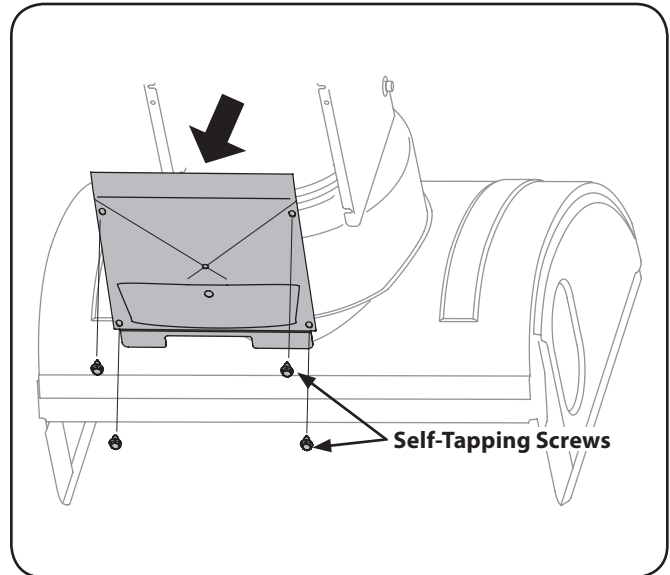

Figure 7-2
4. Remove the frame cover from the underside of the snow thrower by removing self-tapping screws which secure it. See Fig. 7-2.
- Remove the frame cover from the underside of the snow thrower by removing self-tapping screws which secure it. Ref. Fig. 7-2.